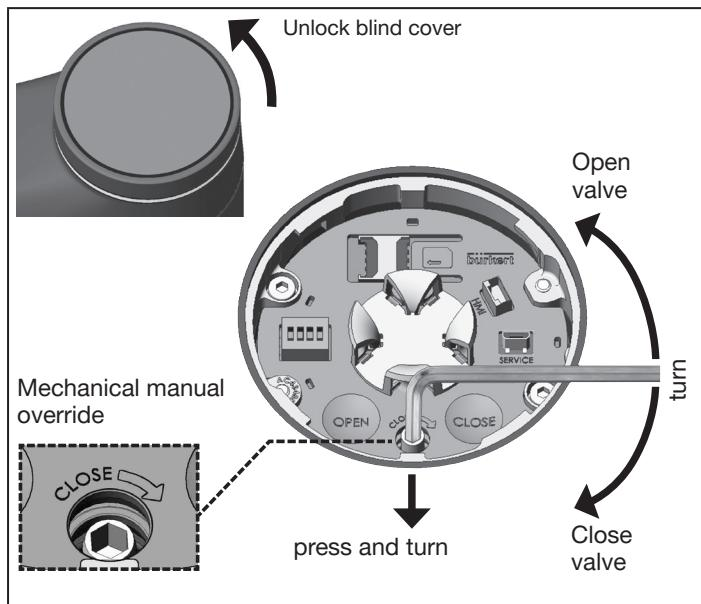
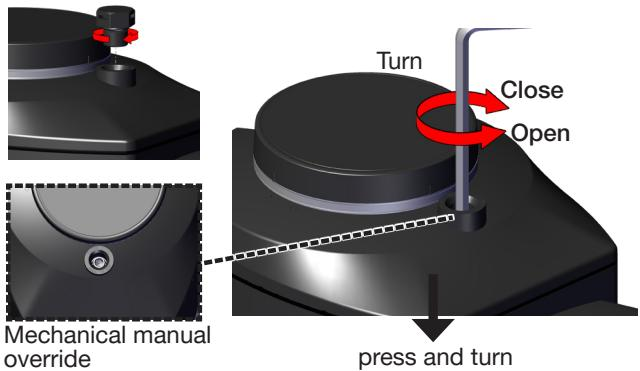

Fig.35: Mechanical manual override AG2
Fig.36: Mechanical manual override AG3
- Apply light pressure to lock the mechanical manual override mechanism into place while turning the Allen key at the same time (see "Fig.35" and "Fig.36").